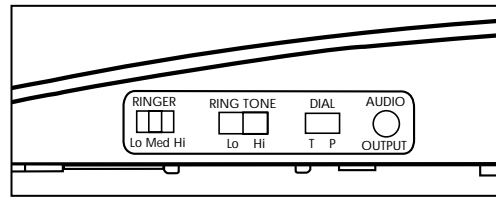

Figure 13 - Ringer Volume & Pitch
1. You can adjust the **RINGER VOLUME** as high as 95+ decibels. The settings available are **LO**, **MED** and **HI** as shown in Figure 13.